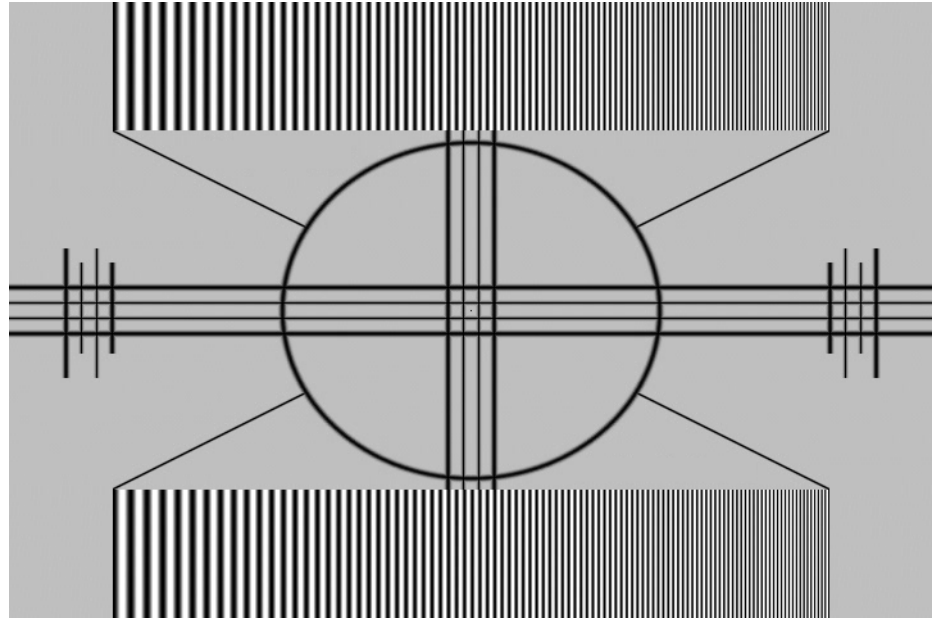

**Figure 4-8. Typical Test Pattern for Adjusting Sharpness**
**Sharpness:** “Sharpness” is the amount of high-frequency detail in the image. To adjust sharpness, select Sharpness from the Picture Adjust menu and press **ENTER**. On your external test pattern source, select a pattern like the one shown in Figure 4-8. Adjust as needed, looking for white edges around the transitions from black to gray and different sized lines in the “sweep” patterns at the top and bottom. Lower the sharpness setting to eliminate them.